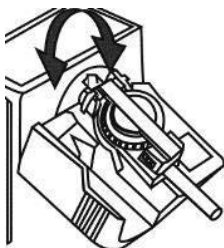

Fig. 5
12. Rock the clamp from side to side while applying light and steady pressure (Fig. 5).